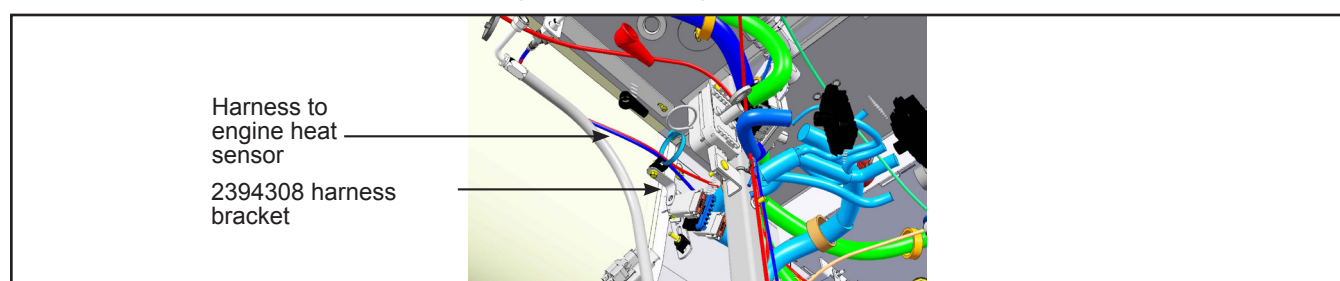

Figure 17 - Routing to engine heat sensor
- 1.18. Locate and install the 2394308 harness bracket. See Figure 17, 18.